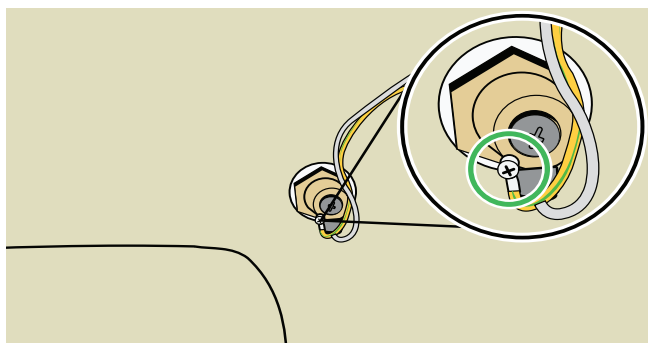

Figure 46
28. If equipped with Underwater lights, cut the cable ties and disconnect the four earth grounding cables to the LED lights, two on each side . See Figure 46.